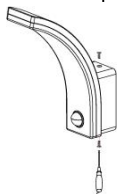

Figure1
- Screw off the nail on the bottom of sensor lamp and unload the bottom. (refer to figure1)